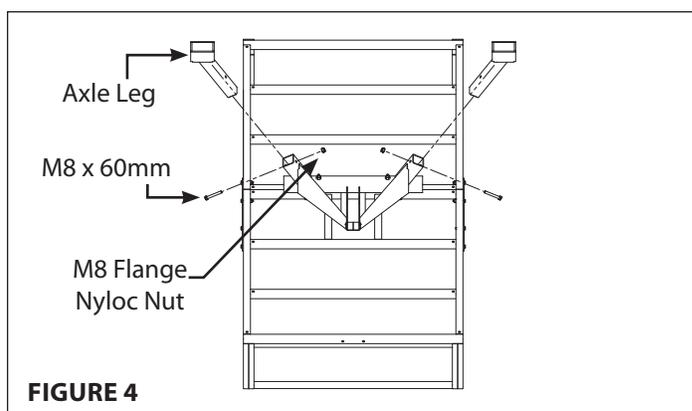

FIGURE 4
5. Assemble one of the axle legs (25076) to one of the angled tubes coming up from the axle weldment. Make sure the leg is oriented so that the hex hole is facing toward the outside of the unit. Use (1) M8 x 60mm bolt, (1) M8 flange nyloc nut, to fasten the parts together. Repeat the same process on the other side of the axle. **SEE FIGURE 4.**